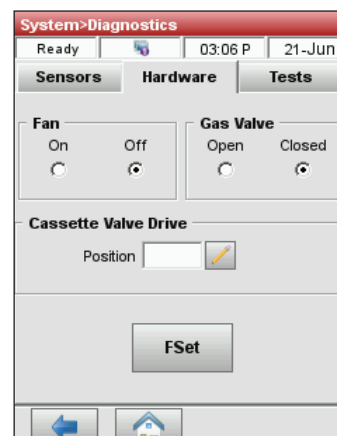

Figure 31. System Manager> Diagnostics> Controls tab
2. Tap **Diagnostics** and then tap the **Hardware** tab (figure 31).